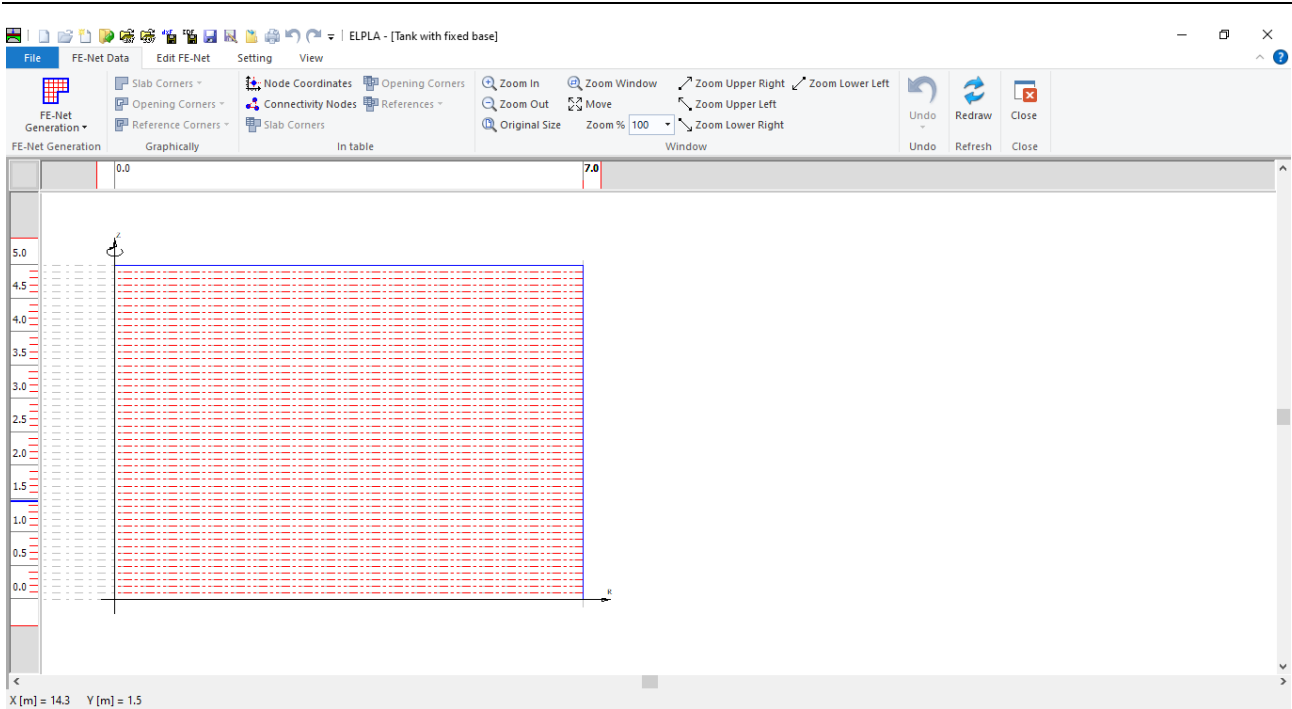

Figure 3.9 Generated FE-Net
Click "Finish" button, the generated FE-Net appears in Figure 3.9.
- Choose "Save" command from "File" menu in Figure 3.9 to save the data of the FE-Net
- Choose "Close" command from "File" menu in Figure 3.9 to close the "FE-Net" window and return to *ELPLA* main window